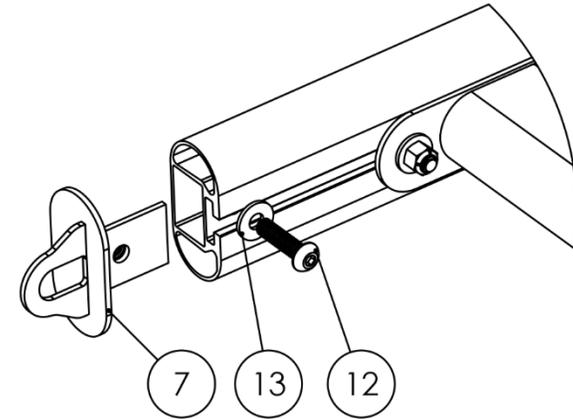

Figure 7
4. **Install the End Caps to the Side Rails.** Slide (4) End Caps (Item No. 7) into each end of a Side Rail (Item No. 3). Once inserted, match the Side Rail's pre-drilled hole with the End Cap's threaded hole. As shown in Figure 7, secure each End Cap by threading a 1.25" Button Head Cap Screw (Item No. 12) and a Metal Washer (Item No. 13) into the concentric holes.